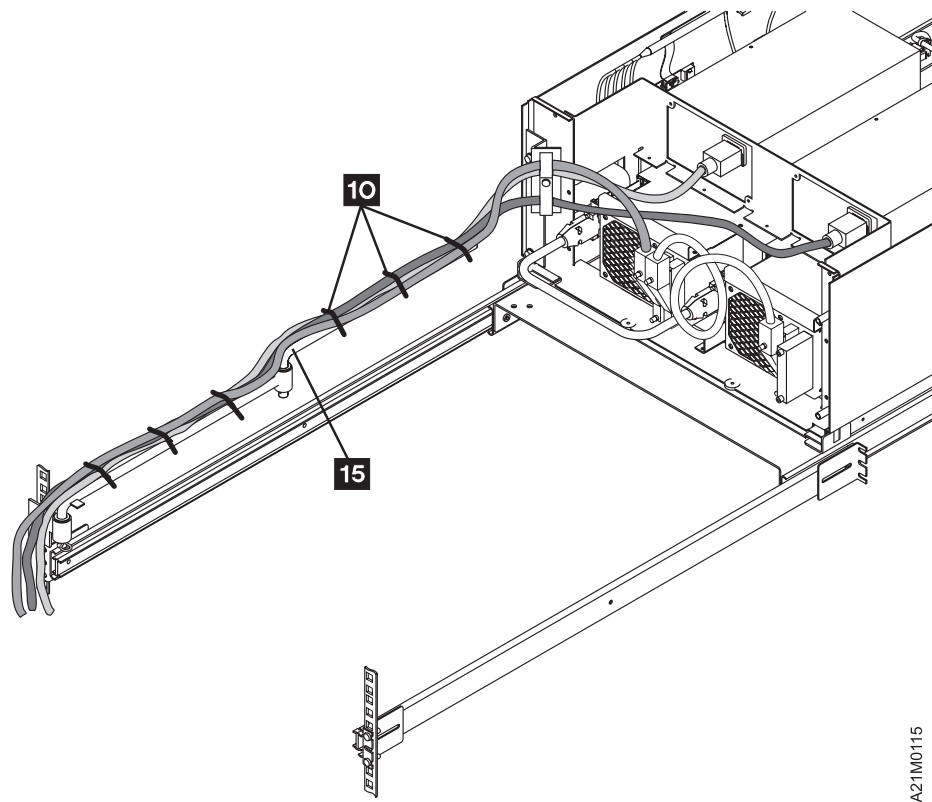

Figure 46. 3570 and Articulated Arm Extended for Model B22 Dual-Drive Single-Host
- \_\_\_ Step 8. See Figure 46. Push the 3570 completely forward so it will lock into position, then extend the articulated arm to its full length toward the 3570 library.